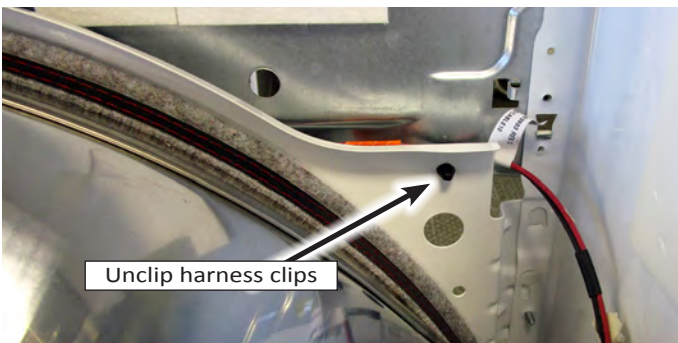

Figure 1 - Harness clip location.
5. Unclip the harness clip shown in Figure 1.